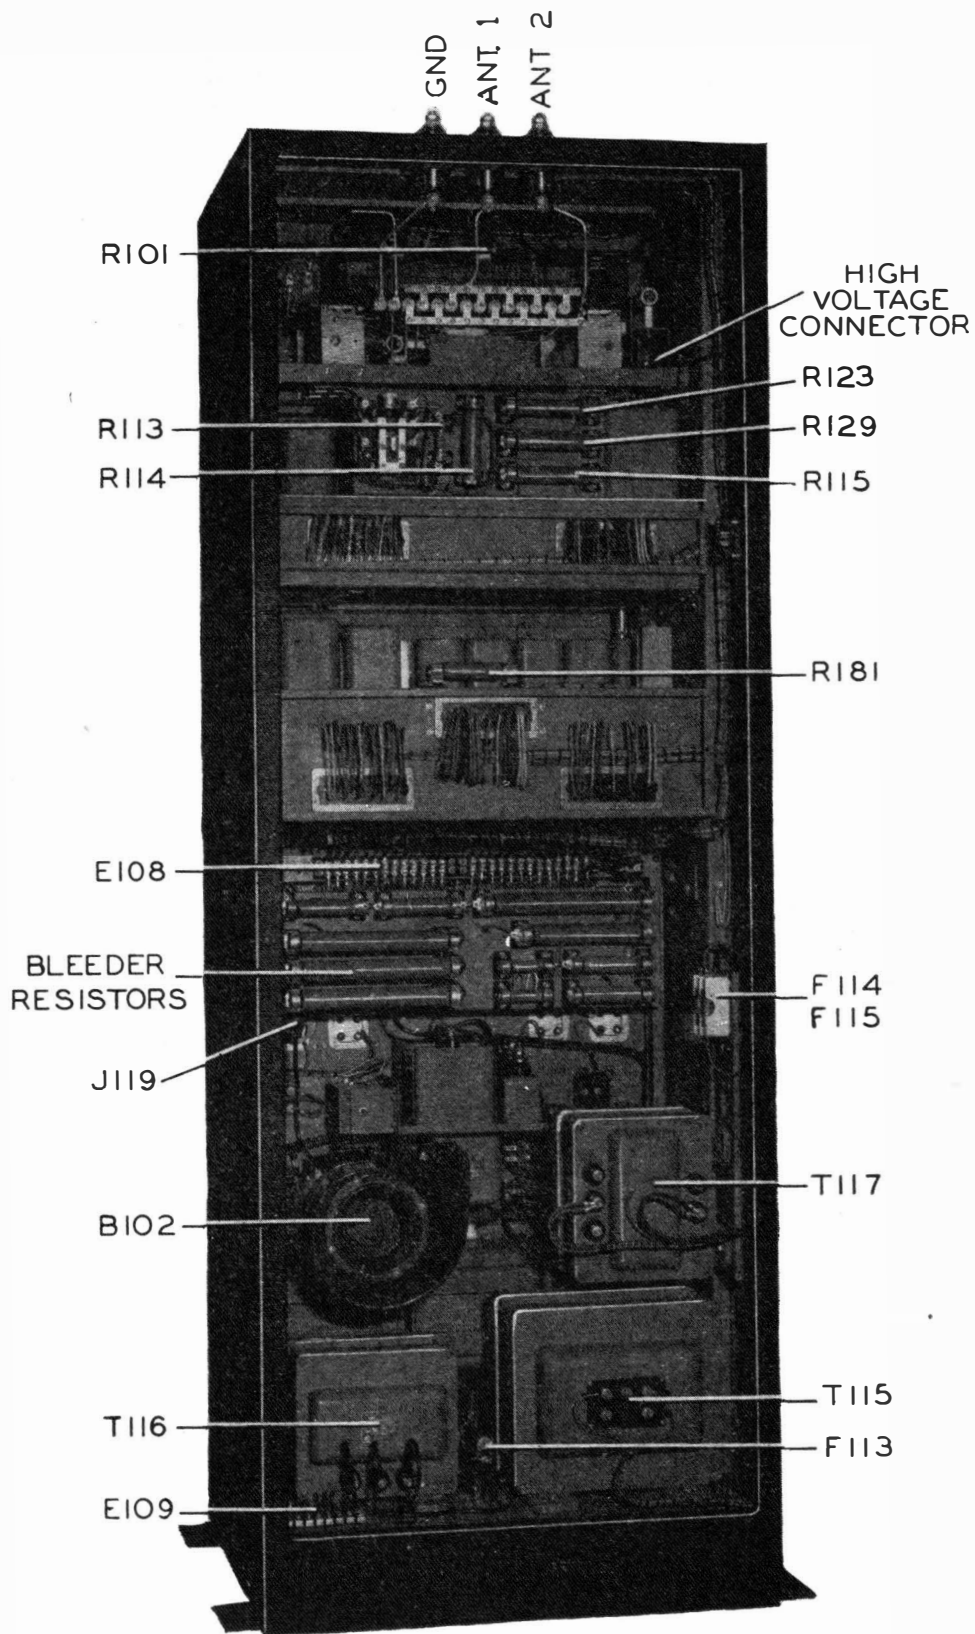

Fig. 13 Radio Transmitter (Rear Open)
(k) Bolt the ventilating blower unit, B102, to the left-hand side of the cabinet (Refer to Figure 13).
**3.5.4. Radiation System.** Provision has been made in the transmitter to use either one of two antennas on any of the ten frequency channels. (Refer to Fig. 13 p. 55.) It is recommended that vertical antenna systems be installed. Every effort should be made to choose antennas that do not have high reactive impedance components. Maximum impedance can be decreased by the use of an antenna conductor having a relatively large cross section. A conductor with a diameter of  $\frac{3}{8}$  inch will appreciably reduce the reactances encountered. Conductors of greater diameter, such as  $\frac{3}{4}$  to 2 inches, will further improve multi-frequency operation. The height of a vertical radiator should be determined for the lowest operating frequency. It should be at least one-quarter wavelength at this frequency.